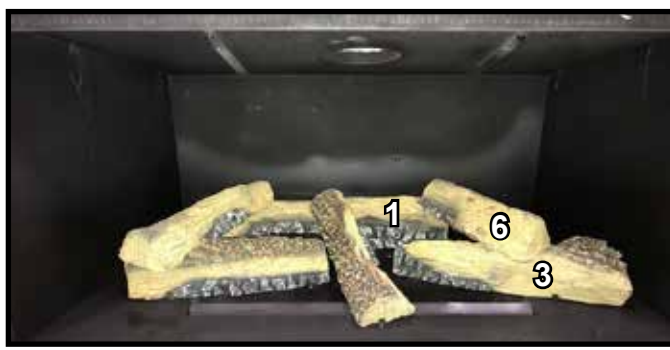

Figure 8. Log #6 Installed
**LOG #6:** Locate the larger end of Log #6 and rest it on the flat spot of Log #3. Lean the other end of Log #6 back so that it rests on the flat spot of Log #1. See Figure 8.